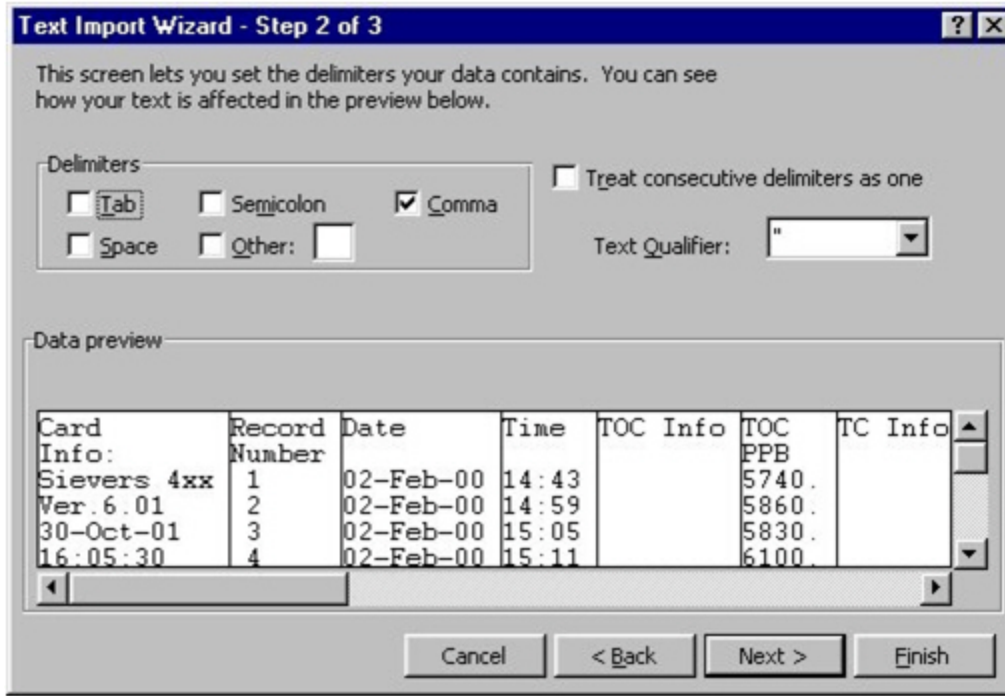

Figure 49: Text Import Wizard – Step 2 of 3
9. Verify that the **Comma** check box is selected, to identify the file as being comma-delimited (Figure 49: Text Import Wizard – Step 2 of 3).